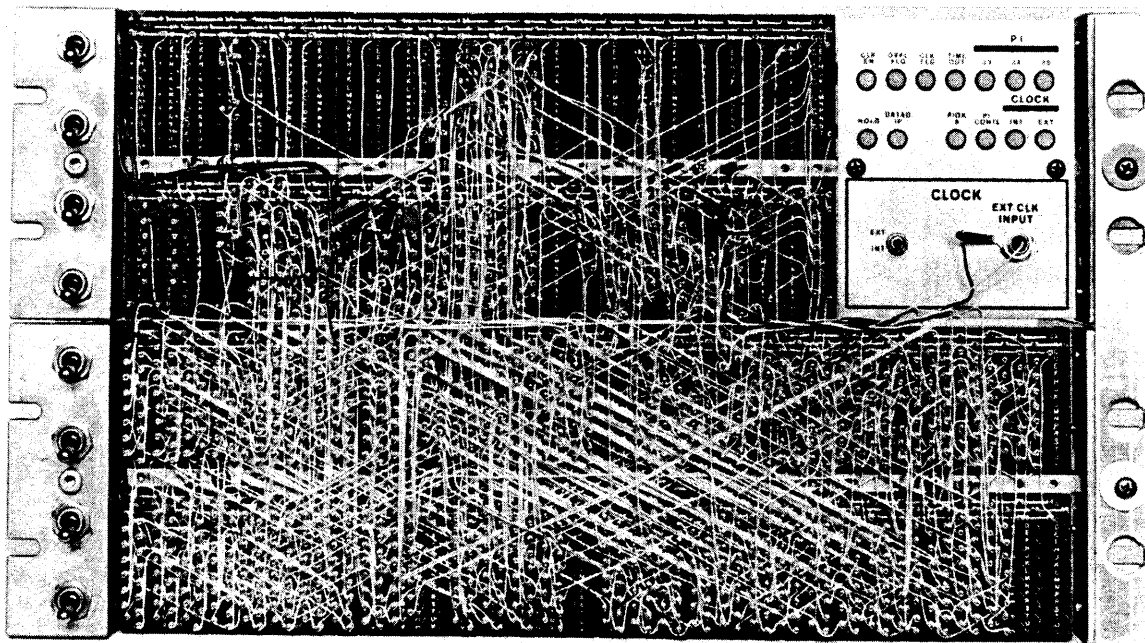

Figure 1-1 DK10 Real Time Clock
1.6 MECHANICAL PACKAGING (Refer to Figure 1-1)